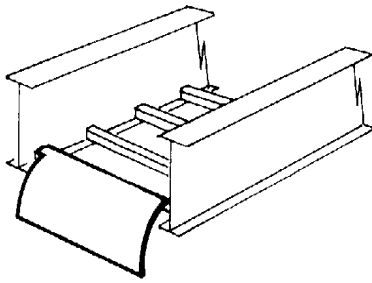

Figure 4.47
4.6.2 Drop Outs (See Figures 4.47 through 4.49.)